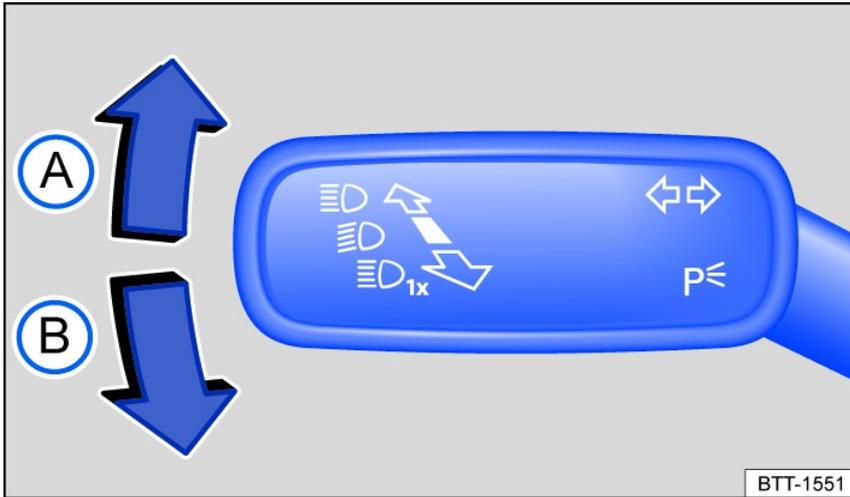

Fig. 96 On the left side of the steering column: turn signal and high beam lever.
- Move the turn signal and high beam lever from the center position to the following position *fig. 96*: